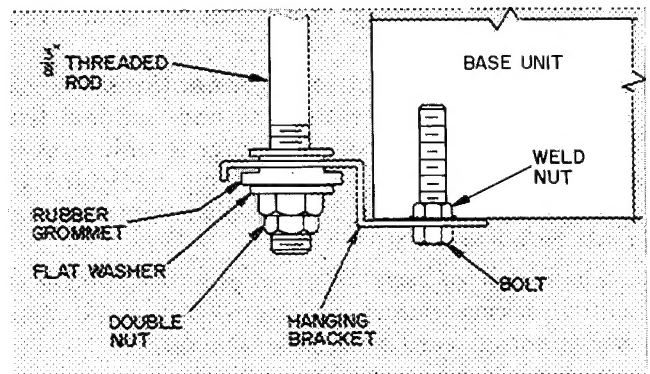

Fig. 3 — Suspension Kit Installation — 50HQ
- f. 50HQ units include a suspension package for ceiling installation. To attach hanging brackets, install 4 bolts (5/16 - 18-3/8 in. lg) thru bracket into the 4 weld nuts located on bottom of unit. Insert the threaded rod thru rubber grommet, located in hanging bracket, and attach with flat washer and double nut. See Fig. 3.